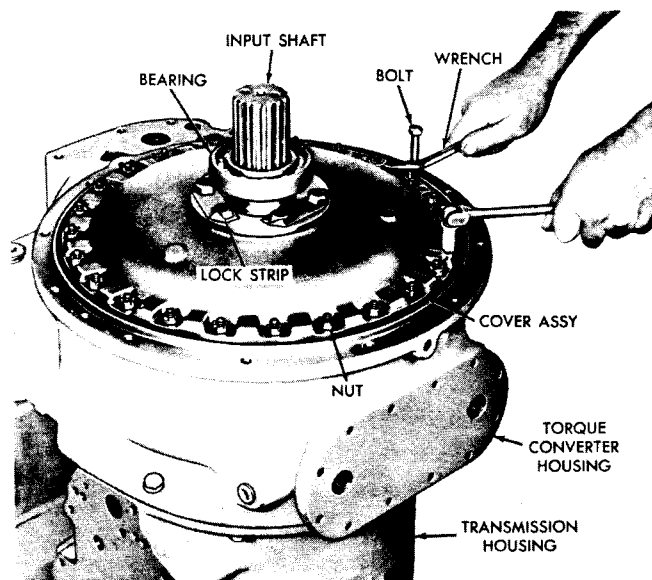

Fig. V-10. Removing converter pump cover bolts
(3) Loosen the cover, using the tapped jackscrew holes in the converter housing.
(4) Remove the front cover and cover gasket. Do not remove the oil seal from the cover unless replacement is necessary.
(5) Install a bolt into one of the holes in the converter housing. Use a wrench, braced against this bolt, to prevent the converter rotating (fig. V-10). Remove 24 self-locking nuts which retain the converter pump cover.
(6) Remove the converter pump cover, using jackscrews in the tapped holes provided.
(7) If parts replacement is required, remove the ball bearing from the input shaft (fig. V-10).
(8) If looseness is evident, or if parts replacement is required, flatten the lock strips and remove six bolts and the input shaft from the converter pump cover (fig. V-10).
verter rotating. Remove the 24 self-locking nuts which retain the converter pump cover. Refer to fig. V-10.
(1) Remove the 13 bolts and lock washers which secure the torque converter housing to the transmission housing (fig. V-10).